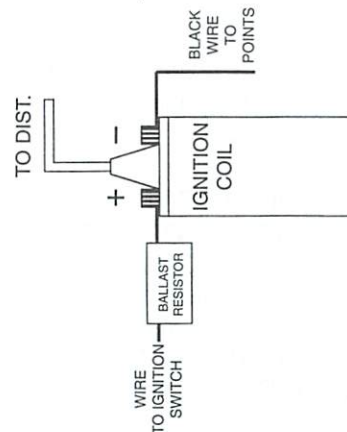

FIGURE 2
5. The **red** wire from the Ignitor must be connected to the **positive (+)** side of the coil, or a 12 volt switching power source. The black wire must be connected to the negative (-) side of the coil. (See Figure 2 & 3).
13. For installations that do not use a primary ballast resistor, connect the *Ignitor* red wire to the positive (+) side of the ignition coil. (See Figure 2).